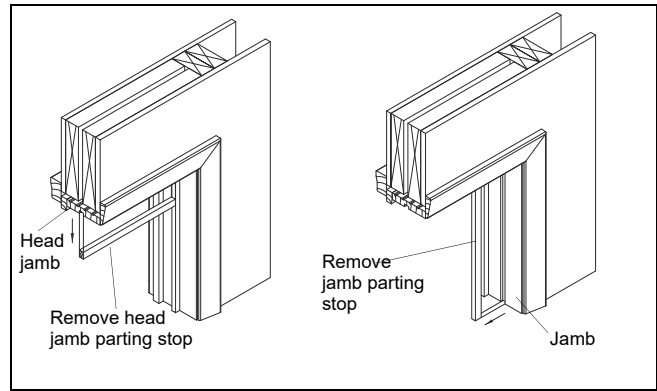

Figure 2
3. Remove the head and side jamb parting stops with a pry bar. See figure 2.